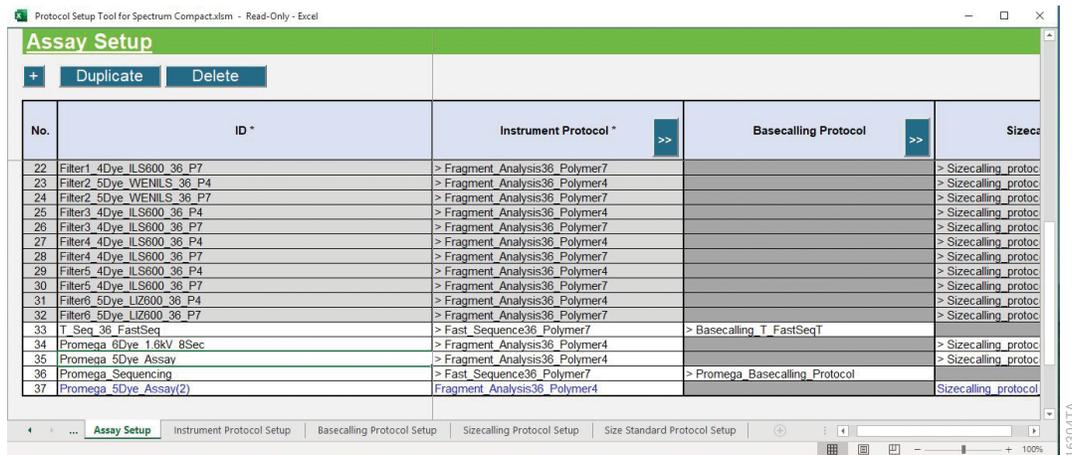

Figure 203. 'Assay Setup' worksheet with Double Arrow button.
7. It is also possible to edit specific settings within the instrument, basecalling or sizecalling protocols selected for an assay. Select **Right Double Arrow** in the column header for the desired instrument, basecalling or sizecalling protocol to be edited within the assay (Figure 203).